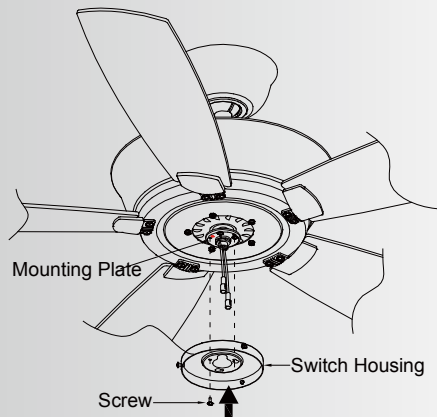

Fig. 21
Step 1. You will find one red label on the mounting plate. Remove this screw (near the red dot label) preinstalled on mounting plate and loosen the other two (do not remove). Place the two slot holes on the switch housing over the 2 screws previously loosened from the mounting plate. Rotate the switch housing until it locks in place at the narrow end of the key holes. Securely by tightening the 2 screws previously loosened and the one previously removed. (Fig. 21)